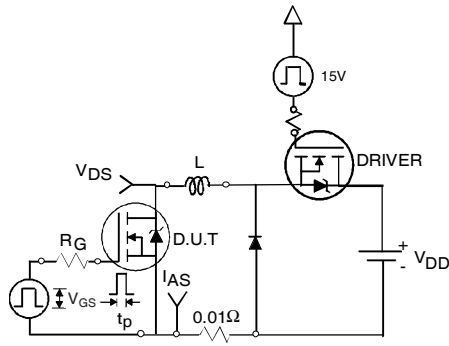

Fig 12a. Unclamped Inductive Test Circuit
- ③ Pulse width ≤ 1.0ms; duty cycle ≤ 2%.
- ④ C_{oss eff.} is a fixed capacitance that gives the same charging time as C_{oss} while V_{DS} is rising from 0 to 80% V_{DS}.
- ⑤ Limited by T_{Jmax}, see Fig.12a, 12b, 15, 16 for typical repetitive avalanche performance.
- ⑥ This value determined from sample failure population. 100% tested to this value in production.
- ⑦ This is only applied to TO-220AB package.
- ⑧ This is applied to D²Pak, when mounted on 1" square PCB (FR-4 or G-10 Material). For recommended footprint and soldering techniques refer to application note #AN-994.
- ⑨ R_θ is measured at T_J of approximately 90°C.
- ⑩ Calculated continuous current based on maximum allowable junction temperature. Bond wire current limit is 75A. Note that current limitations arising from heating of the device leads may occur with some lead mounting arrangements.
3. Equation below based on circuit and waveforms shown in Figures 12a, 12b.